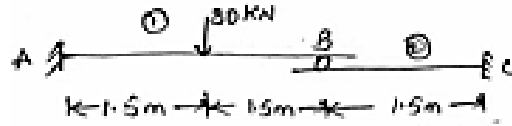

Figure 5
- (b) Two cantilever beams 1 and 2 respectively are propped by a hinge as shown in Figure 5. Beam 1 carries a central concentrated load of 30 kN. Draw the SFD and BMD.  $EI$  is constant for both cantilevers. [7M]